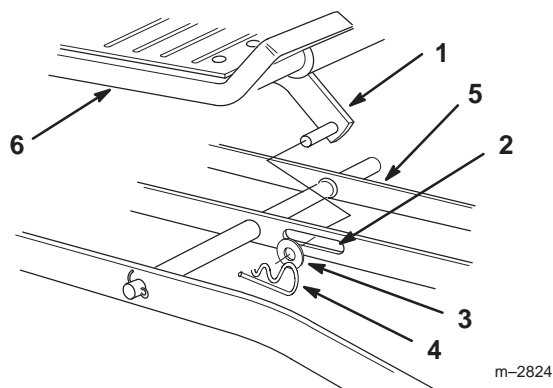

Figure 8
6. Slide the mower under the tractor from the right side and slide the attachment lift between the center and left side level bar (Fig. 8).
8. Place the attachment lift pin into the slot in the center lever bar and secure it with a washer (3/4 inch) and a hairpin cotter (Fig. 8).